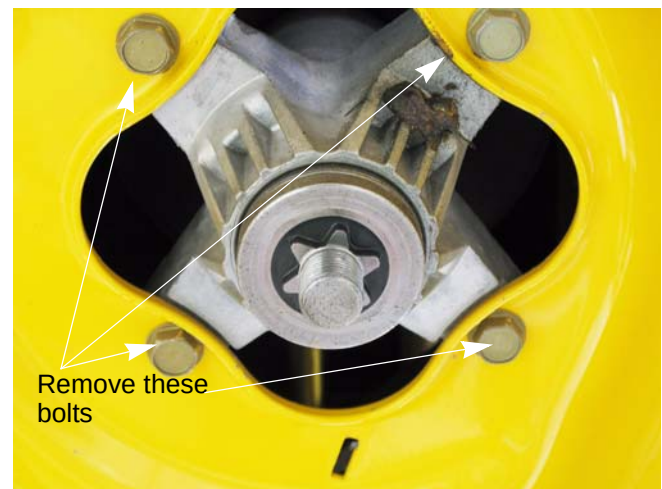

Figure 8.7
4. Remove the four bolts fastening the spindle to the deck. See Figure 8.7.